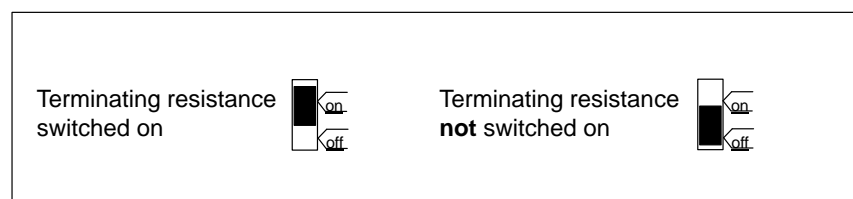

Figure 3-18 Bus Connectors (6ES7 ...): Terminating Resistance Switched On and Not Switched On
3. If the bus connector (order number 6ES7 ...) is at the start or end of a segment, you must switch on the terminating resistance (switch position "ON") (see Figure 3-18).